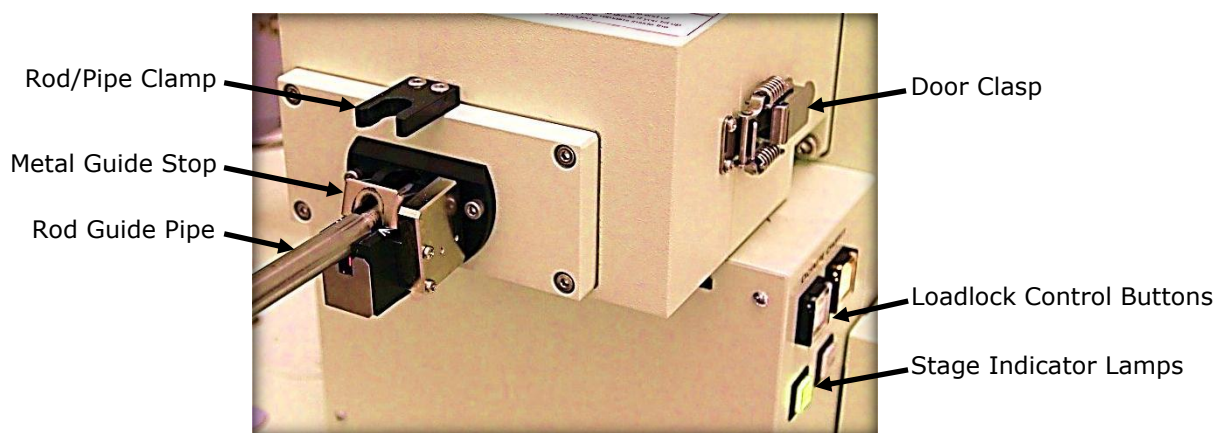

Fig. 2: Loadlock and Transfer Rod Assembly
- c. First confirm that the SEM is in the correct initial state by checking the buttons on the right-side of the airlock (see Fig. 2 below):
- f. Lift the transfer rod vertically upwards until the guide pipe lifts off the metal guide stop and then rotate downwards to the horizontal position (Fig. 2). Push the rod inwards slowly (and carefully!) and fully insert until you feel a firm stop (the **Camera** window will show the holder on the stage). The HLDR button on the loadlock should now be lit green and the **Select specimen holder** window will appear on the screen.